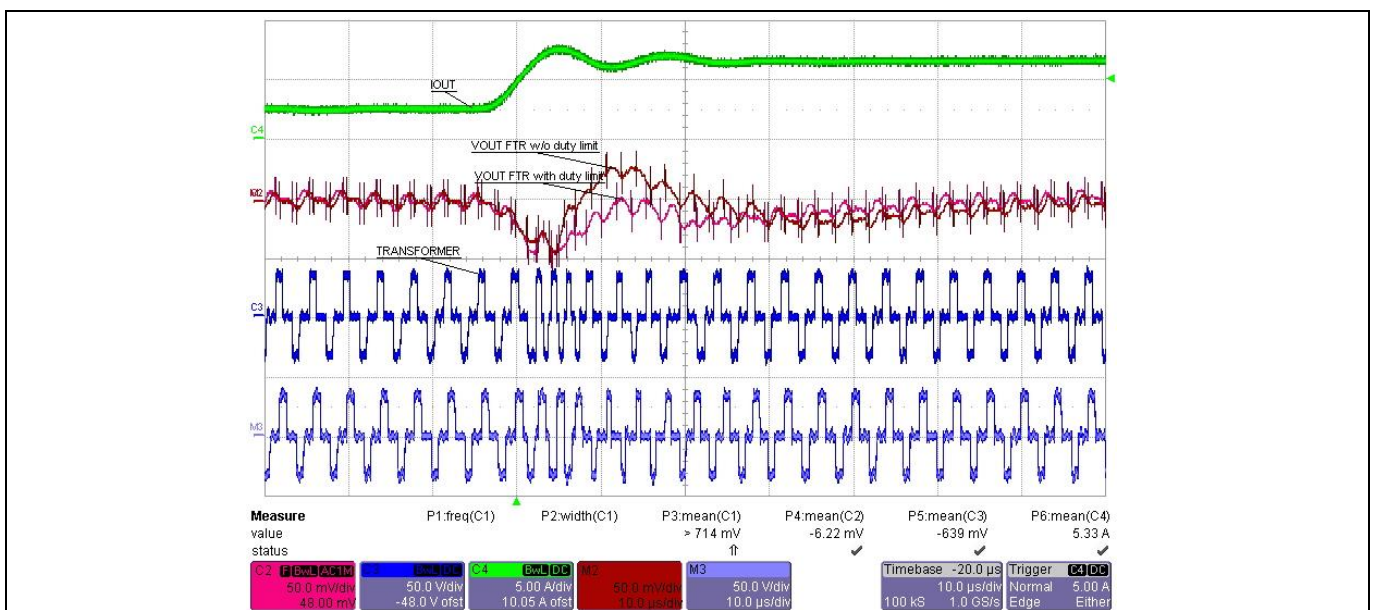

Figure 117 FTR waveform at 72 V input
Figure 117 shows a test waveform of a 5 V HBCT converter at load transient from 5 A to 15 A. Input voltage is 72 V. With **lp0_tr_vin_thresh** = 48 (V), the maximum duty-cycle during FTR is clamped to 67 percent by limiting PW to 0.56 μs . With **lp0_tr_vin_thresh** = 80 (V), the duty-cycle in FTR is 100 percent and PWM PW is 0.83 μs . The VOUT_SCALE_LOOP of this board is 0.23.